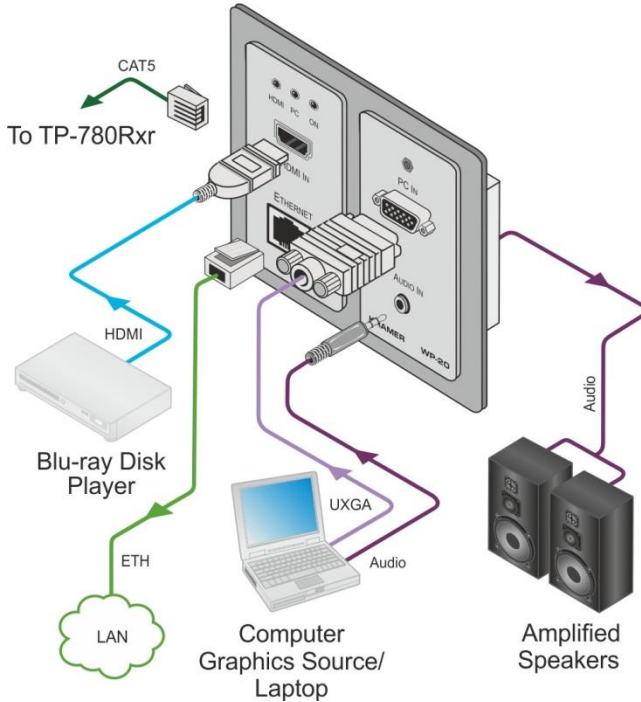

Figure 5: Connecting the WP-20 Wall Plate
**To connect the WP-20, as illustrated in the example in Figure 5:**